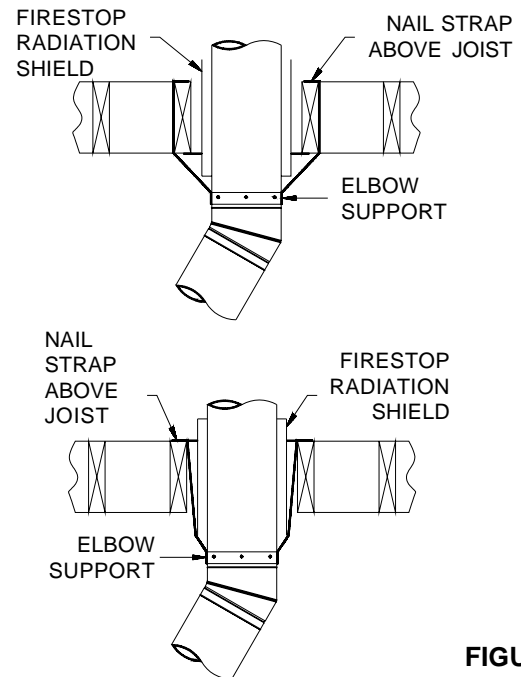

FIGURE 15
4. Install an elbow support just above the highest elbow. Attach the support band to the chimney by installing eight sheet metal screws through the pre-punched holes. Nail the four support bands to the side of the framing using 6d(2") spiral nails. Each elbow support will support 9m(30ft.) of chimney. See figure 15.